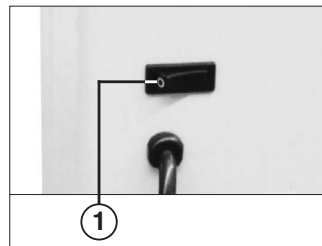

fig. 1
Please make sure that the shredder is switched off over night (rocker switch (1) (fig. 1).
The motor shuts down automatically, should it become overloaded. Turn the machine off with the rocker switch (1) (fig. 1).